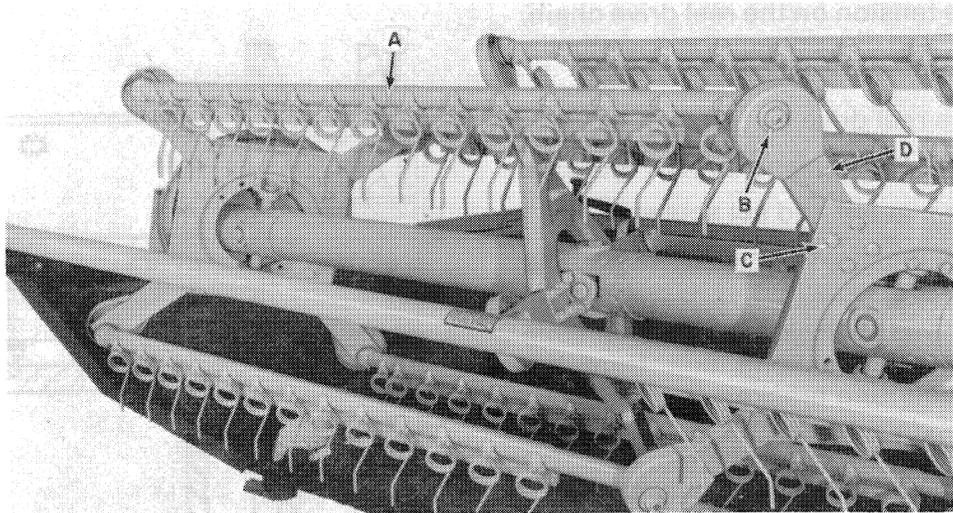

FIGURE 12
1. Loosen the tine bar bearing nuts, B, Figure 12, at each end of the tine bar, A, about six turns. Use a $1\frac{1}{8}$ " box end wrench and a $\frac{3}{8}$ " allen wrench.
2. Remove four bolts, C, Figure 12, and pull the inner spider leg, D, out of the support.